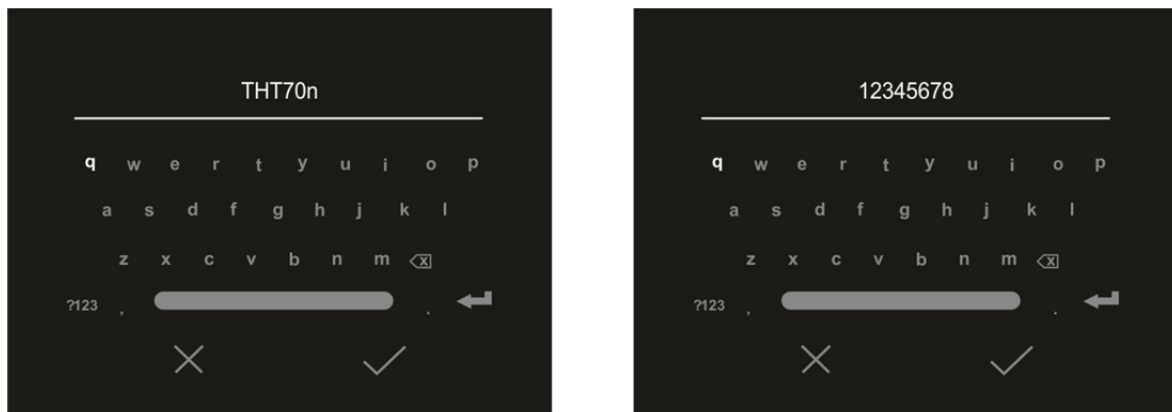

Fig. 17: Definition of SSID and Password of the WiFi connection
3. Touch item “SSID” to define a custom identification ID of the WiFi connection (default THT70n). The screen in Fig. 17 – left side appears on the display.
5. Touch item “Password” to define a custom Password for the WiFi connection (default “12345678”). The screen in Fig. 17 – right side appears on the display.